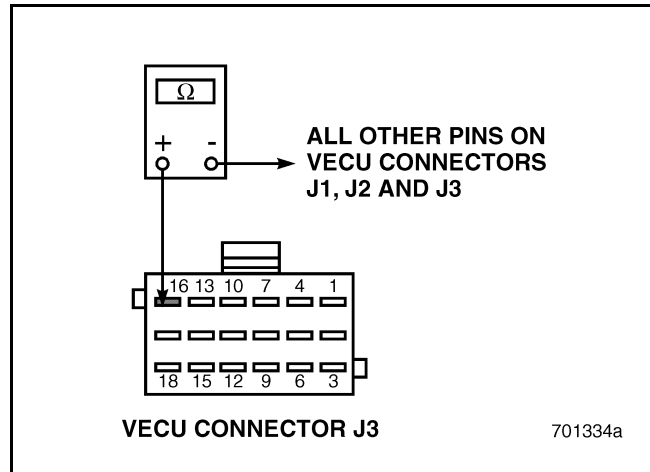

Figure 718
3. Check for continuity between VECU connector J3 pin 16 and all other pins on VECU connectors J1, J2 and J3 (see Figure 718).